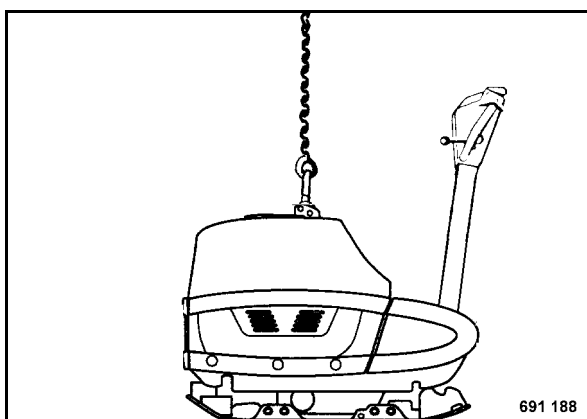

Fig. 44
- Always attach the lifting gear (rope) to the lifting eye to load the vibratory plate (Fig. 44) on a transport vehicle.